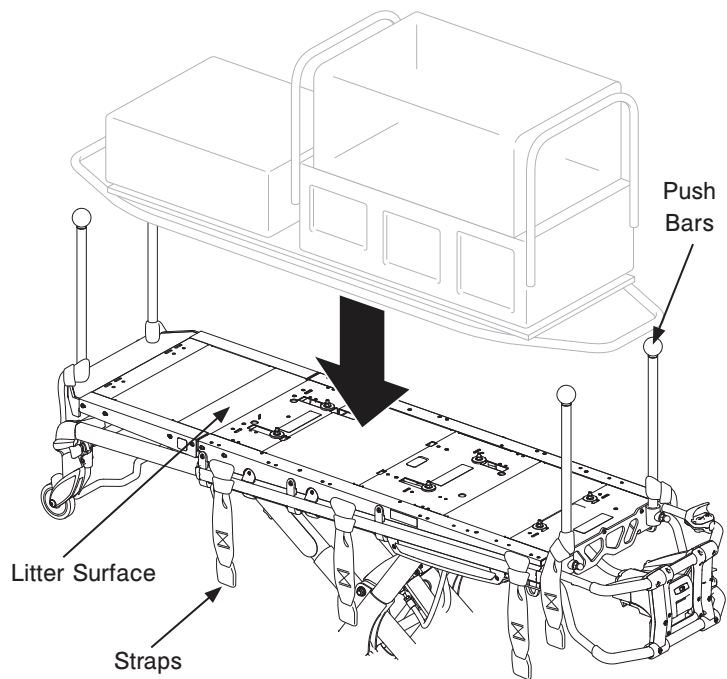

Figure 2
- The Stryker model 6510-042-000, no adaptor option is designed to secure incubators without an adaptor to the model 6510 Power-PRO™ Incubator Transport (IT) ambulance cot.
1. Secure the Air Sled to the litter surface using the straps, (not supplied) (Figure 2).
2. Ensure the straps are secured from the head end push bars to the Air Sled (Figure 2).